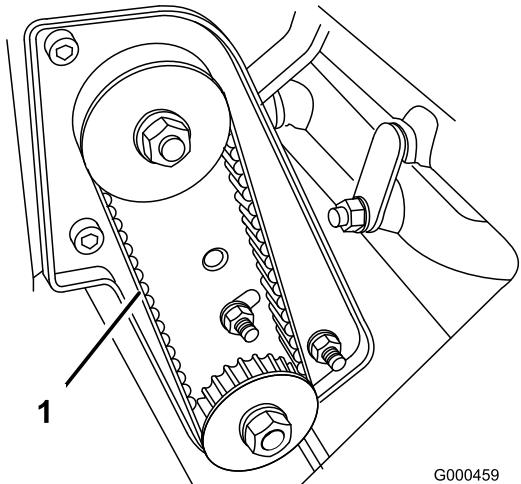

Figure 38
2. Check tension by depressing belt (Figure 38) at mid span of pulleys with  $4 \pm 1$  lb. of force. Belt should deflect  $3/16$  to  $5/16$  inch (4.8 to 7.9 mm). If the deflection is incorrect, proceed to next step.